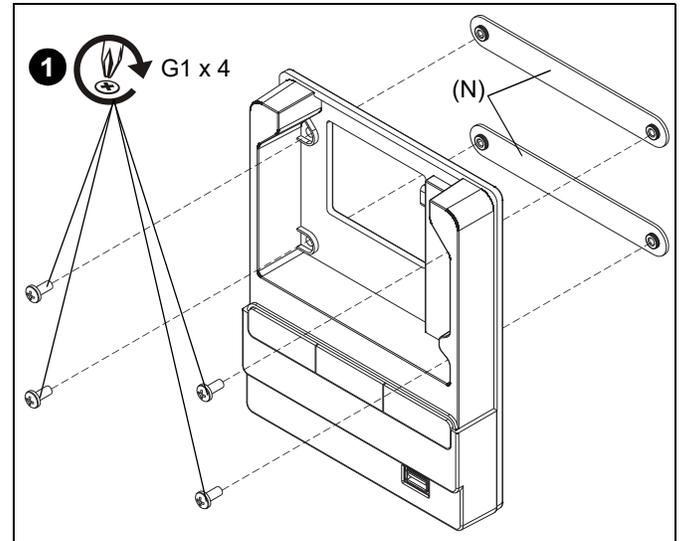

Figure 49
1. Fasten two control pad plates (N) to back of control pad (included with projector) using four 8-32 x 3/8" Phillips head screws (G1). (See Figure 49)